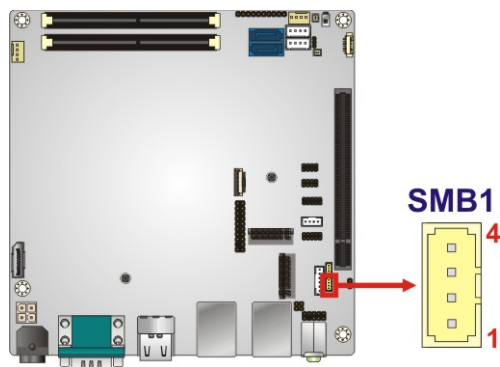

Figure 3-25: SMBus Connector Location
- CN Location: See Figure 3-25